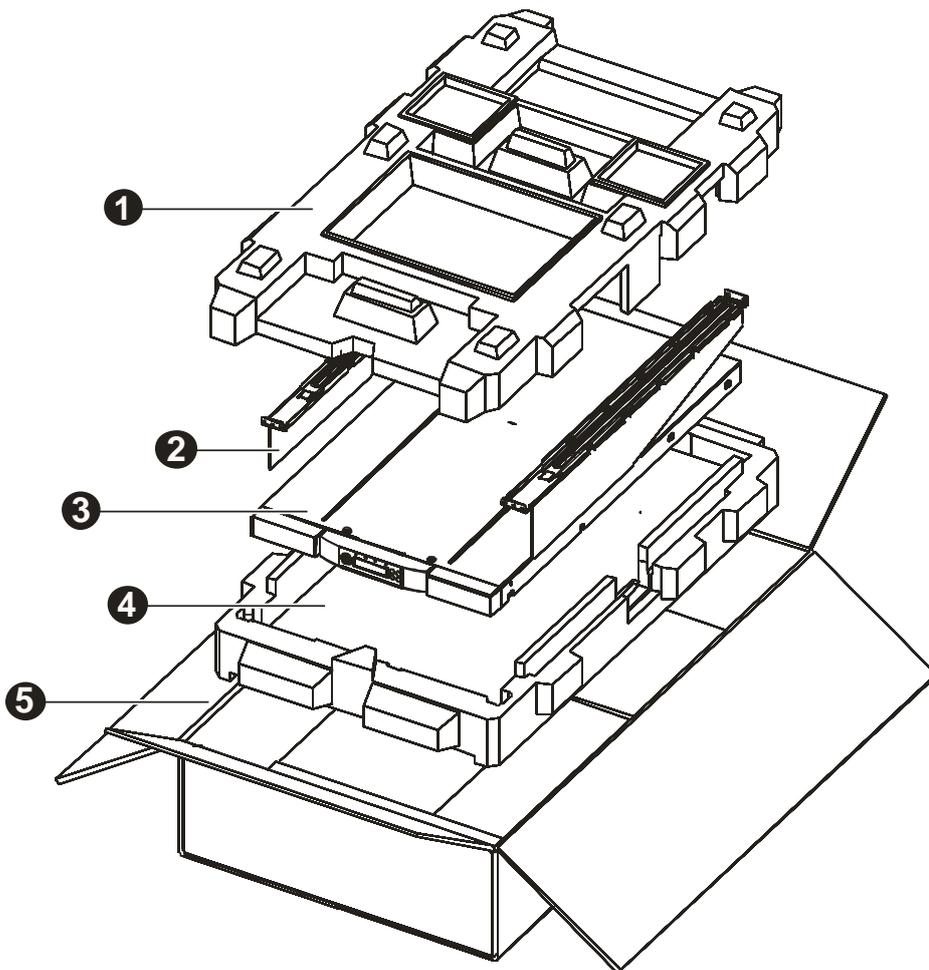

Figure 7 Unpacking the loader
5. Attach the power cable to the power connector on the back panel of the loader (see Figure 7).